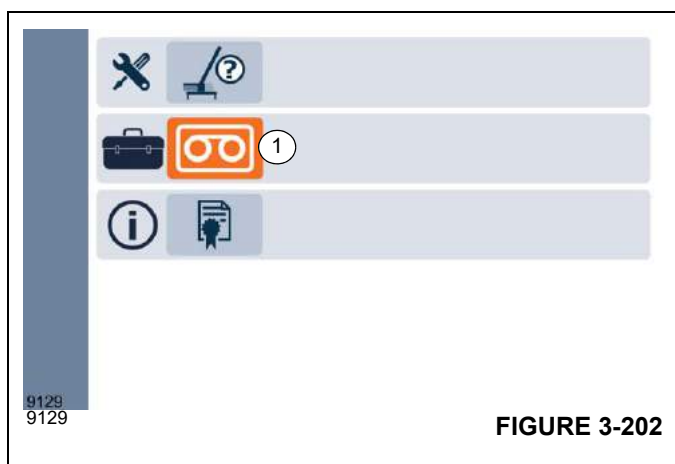

FIGURE 3-202
1. Select the data logger icon (1), (Figure 3-202) on the RDM.